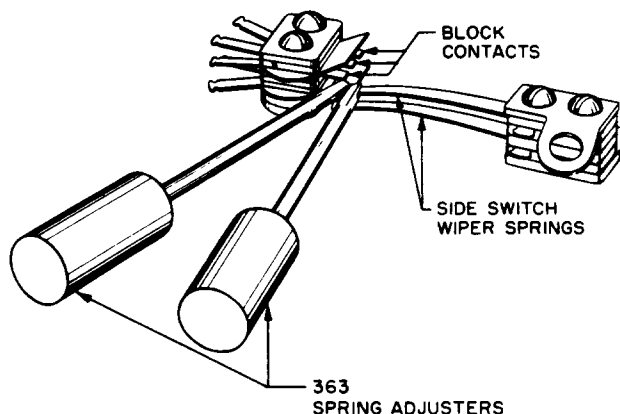

Fig. 9 – Method of Adjusting the Side Switch Wiper Tips
(2) Where a spring is bowed, place the 415A spring adjuster at the far end of the bow and adjust the spring slightly in the opposite direction to the bow and then while applying only enough pressure to hold the spring just off its block contact, draw the adjuster forward the length of the bow, pausing momentarily at each 1/16 inch of the spring to apply a slightly greater pressure than the drawing pressure in a direction opposite the bow. If the spring is bent, follow the same procedure as covered for a bowed spring except that it will only be necessary to adjust the spring from approximately 1/4 inch beyond the bend to approximately 1/4 inch in front of the bend.
(3) If a wiper does not make a knife edge contact on the block contacts, or if the form of the wiper tip requires adjustment, hold the wiper at the base of the tip of the wiper with a 363 spring adjuster and adjust the tip of the spring with another 363 spring adjuster as shown in Fig. 9.